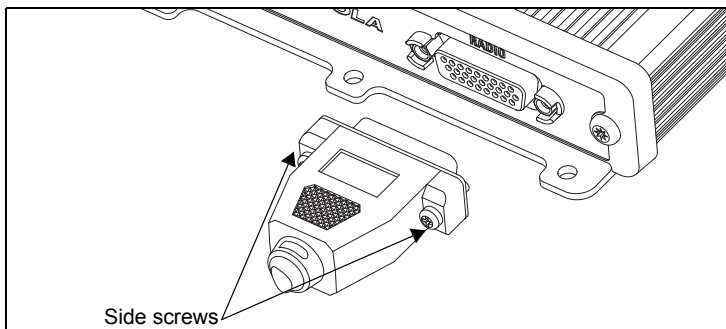

Figure 11: Installing Cradle to Junction Box Cable
2. Secure the Cradle to Junction Box Cable (PMKN4169) or Cradle to Junction Box Cable with USB Data Cable (PMKN4170) from the Vehicular Cradle by screwing the screws onto the connector of the MTP6000 Car Kit Junction Box as shown in Figure 11.